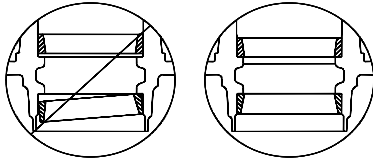
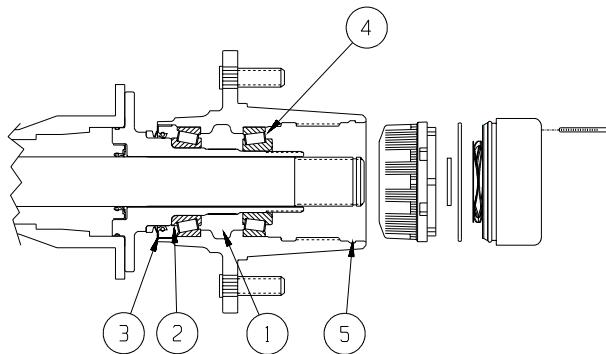

Figure 3a. Cup Installation **NOTE: Avoid scratching the cup surface.**
Figure 3. Bearing and seal installation.
19. Press outer bearing cup (LM501310) into wheel hub (Figure 3, Flag 4). Make sure cup is fully seated (Figure 3a).
20. Press inner bearing cup (LM102910 for disc or LM501310 for drum) into wheel hub (Figure 3, Flag 2). Make sure cup is fully seated as shown in Figure 3a.
2. Pack wheel hub inner diameter (Figure 3, Flag 1) with wheel bearing grease.
6. Apply additional grease to top of installed bearing (Figure 3, Flag 2).
7. Press large radial seal into seat in hub until fully seated (Figure 3, Flag 3). Seal may protrude slightly from wheel hub.
9. Install outer bearing (Figure 3, Flag 4).